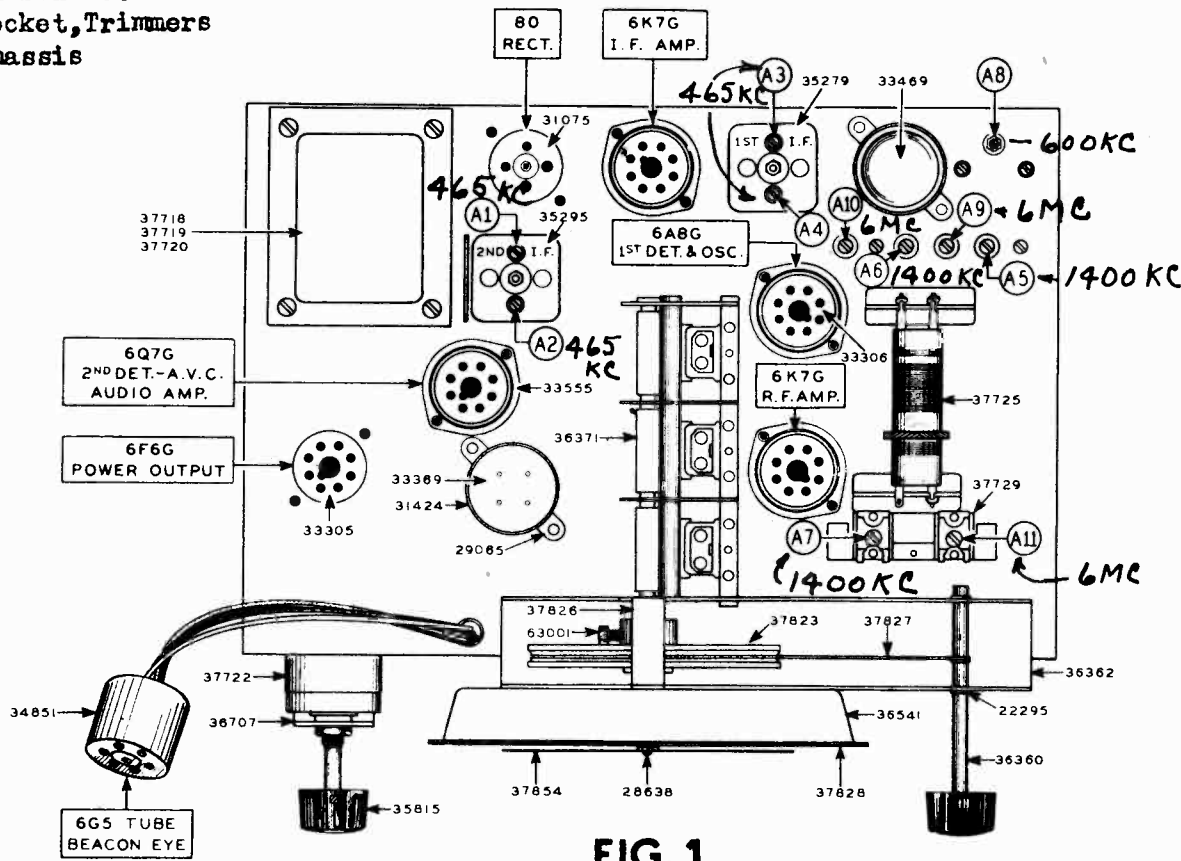

FIG. 1
(D) Adjust the I. F. Trimmers, located as shown in Fig. 1; in the order of their numbers, A1, A2, A3, A4 and A5, until the maximum sensitivity is obtained.